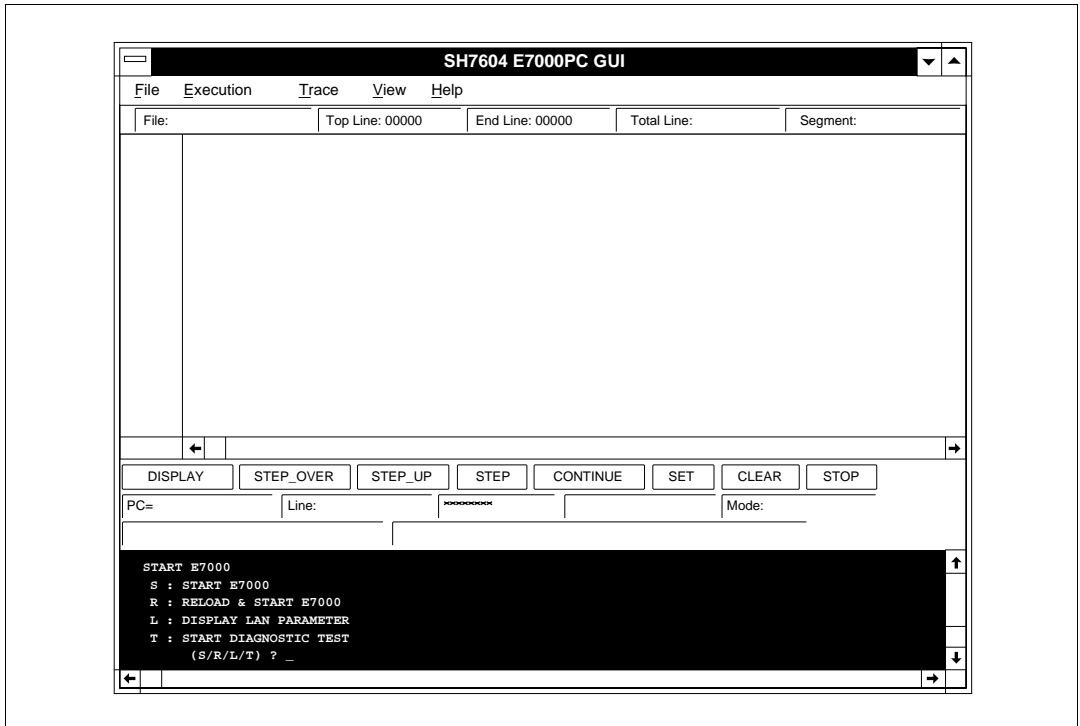

Figure 2-12 Start-up Display
- (4) When the GUI-SH is initiated, the display shown in figure 2-12 appears. The E7000PC emulator start-up message is displayed at the bottom, and the system waits for monitor command input. Enter the S command. For other monitor commands, refer to the E7000 SH7604 Emulator User's Manual. When initiation is completed, the WARM/COLD start selection request message is displayed. When the (Enter) key is pressed to select the COLD start, the GUI-SH prompts for emulator command input by displaying a colon (:).